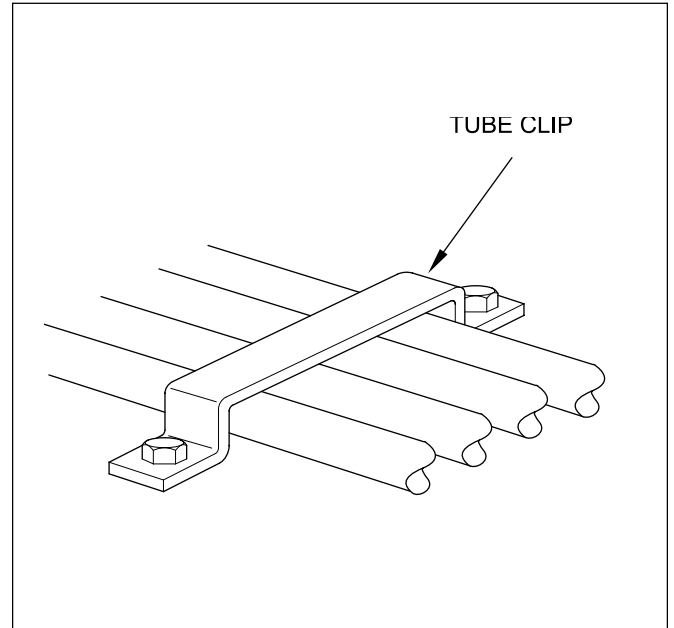

Figure 13
- Use as many tube clips as necessary to keep tubing securely in place (see Figure 13).